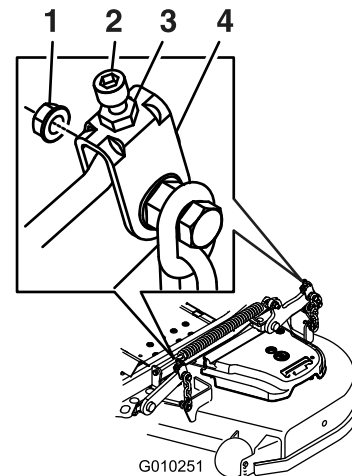

Figure 87
10. If needed, loosen the flanged locknut on the side of the yoke and the jam nut on top. Fine-tune the adjuster screw by turning it to get 7.6 mm (3 inch) height (Figure 87).
16. Fine-tune the adjuster screw by turning it to get 8.3 mm (3-1/4 inches) height (Figure 87).